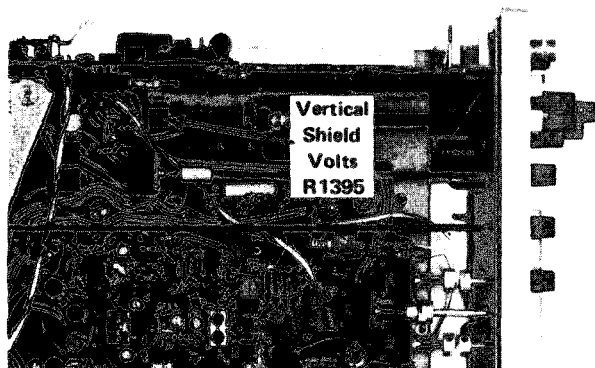

Fig. 5-6. Location of Vertical Shield Voltage adjustment.
f. ADJUST—Vertical Shield Volts adjustment, R 1395 (see Fig. 5-6), for a meter reading equal to the voltage calculated in step 11-c.